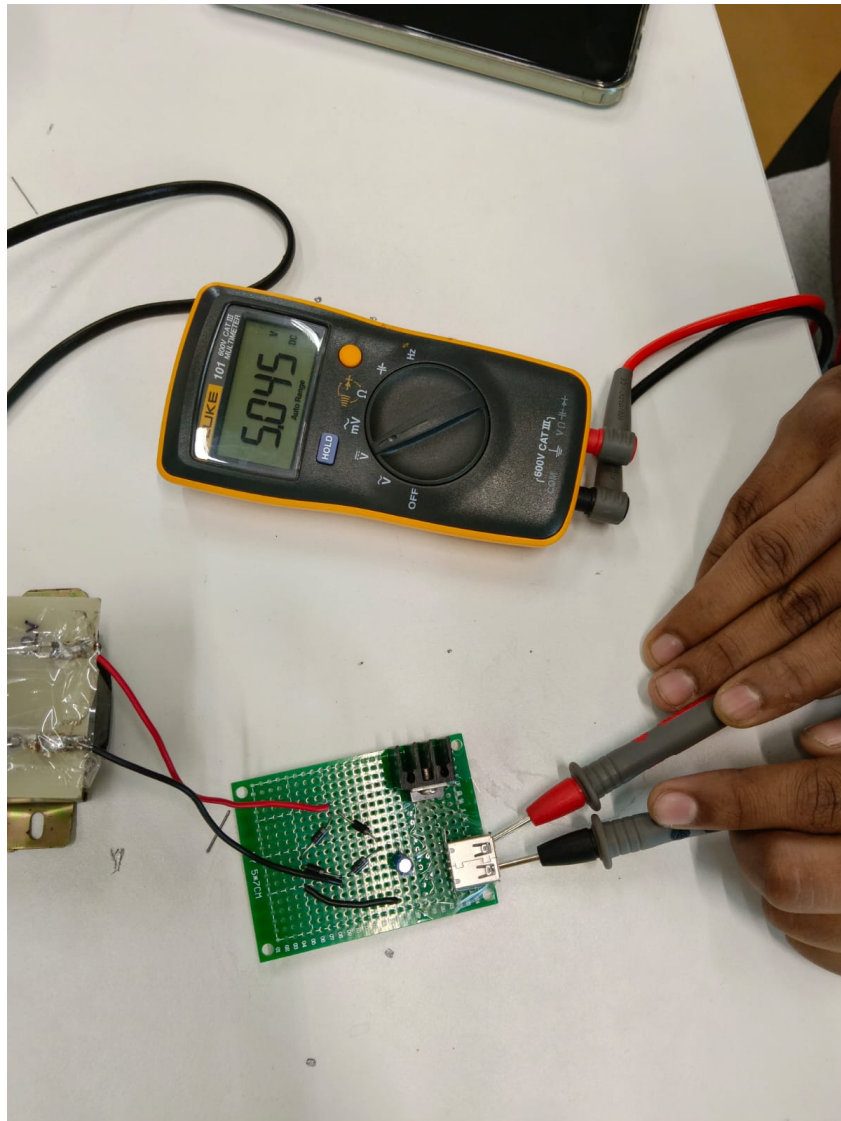

Figure 11: Verifying the output voltage of the USB
0.11 Observation (Figure 11)
We observed the output DC voltage of the USB with the help of a multimeter. The voltage we observed with the help of a multimeter is approx 5V. It was not exactly 5V. It gave more than 5V, as shown in Figure 11